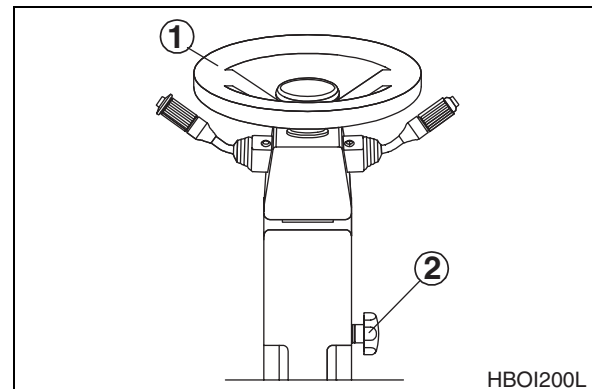

Figure 12
This knob is used to allow steering wheel to be moved to the most convenient position for the operator. Loosen knob (2, Figure 12), while grabbing the steering wheel (1). Once the steering wheel is in the proper place, tighten the knob.